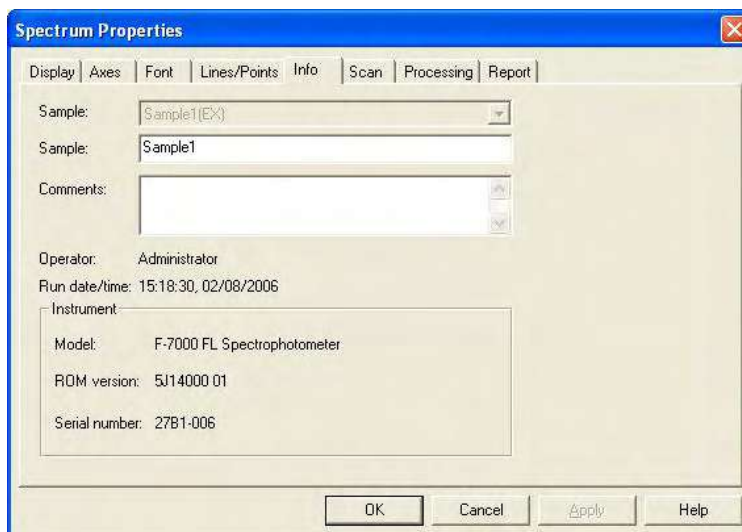

Fig. 7-50
- (1) Open a data file for renaming. (Refer to 7.1.)
- (2) Click the  (information tab) button on the Spectrum toolbar. A dialog box for input of a sample name/comment will appear. The dialog box includes the Info tab.
- (3) Or click the  (properties) button on the Processing toolbar. The Spectrum Properties window will open. Click the Info tab. A tab page as in Fig. 7-50 will appear.